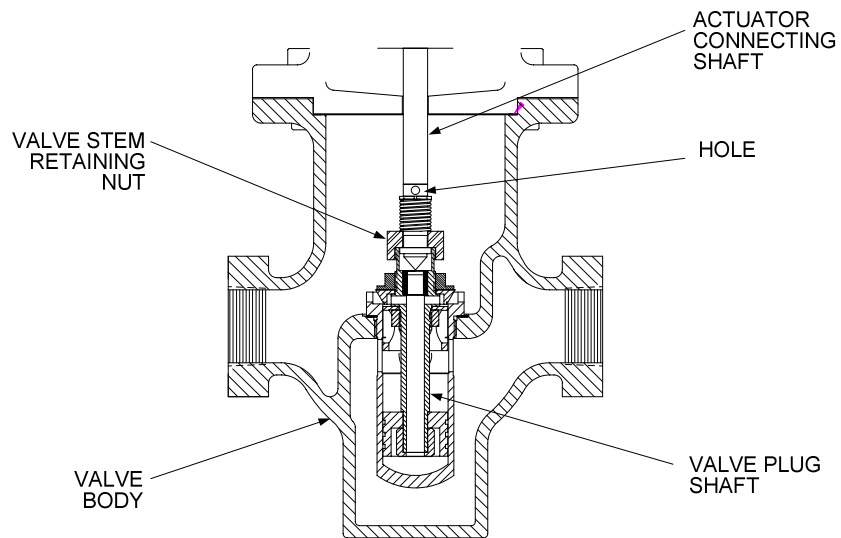

Figure 2-8. Self-Contained Control Valve Actuator Removal – 1” to 2”
- (b) For 1 to 2 inch Valves, hold the Valve Plug Shaft with a pair of pliers and remove the Valve Stem Retaining Nut from the Shaft (Figure 2-8).